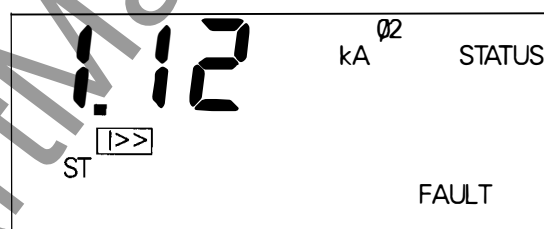

Figure 60. Trip Unit status display for short-time overcurrent trip.
After a short-time trip, the status display appears as in Figure 60. The information presented is similar to that in the long-time overcurrent display, with the short-circuit (I>>) and short-time (ST) targets.